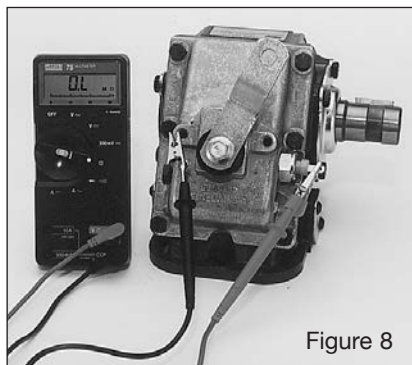

Figure 8
2. Connect the other lead to a bare metal portion of the PTO or shifter (Figure 8).
5. Shift PTO to the disengage position. The meter should return to normal (Figure 8).